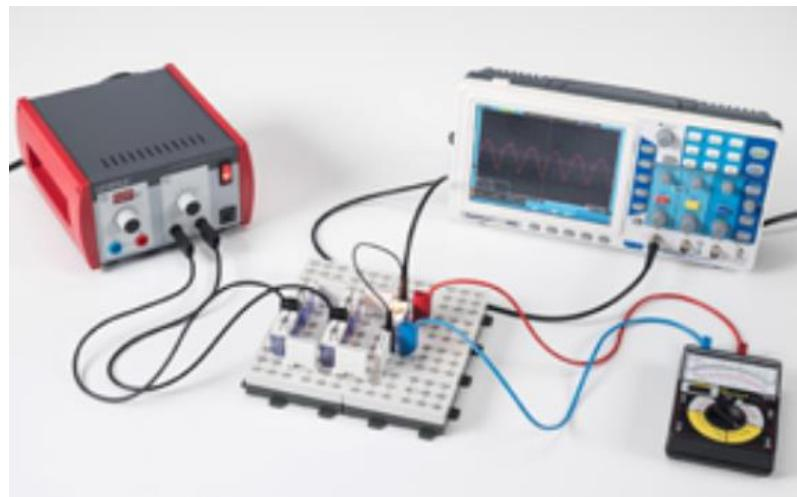

Figure 4: Experimental setup.
- Construct the circuit shown in Figure 4.